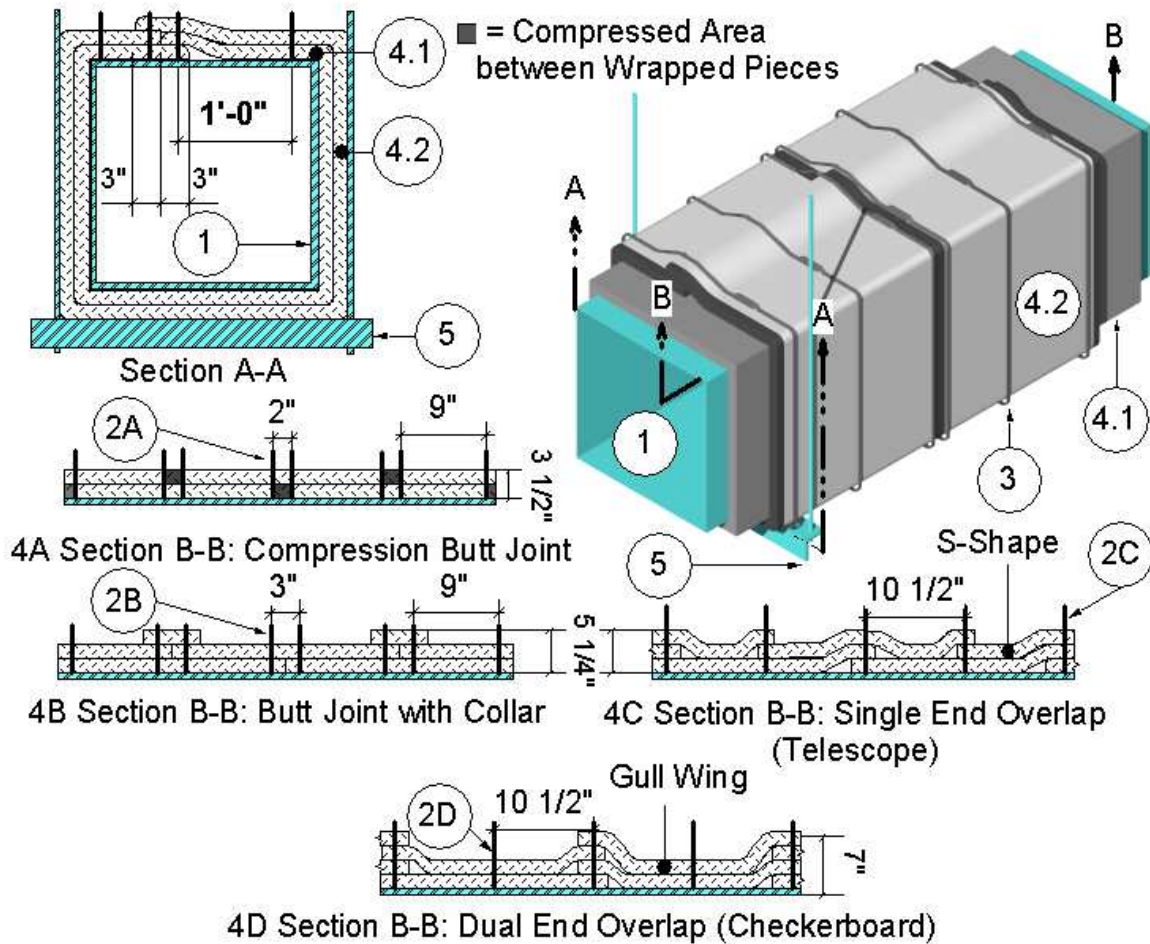

Figure 1
2. FASTENERS: Refer to Figure 1. Weld minimum 12 GA, 6-1/2 in. long, copper-coated, steel insulation pins or 12 GA, insulated cup head steel pins to the grease duct (Item 1). Match the following fastener method with corresponding insulation (Item 4) method.
- INSULATION: Apply the non-combustible (ASTM E136) and durable (ASTM C518) insulation in two layers of nominal 1-1/2 in. thick, 6 pcf density blanket, made of calcium-, silica-, and magnesium-oxide (CSM) fibers, encapsulated with polypropylene-foil or aluminized polyester-foil scrim over the entire surface of the grease duct (Item 1). Apply the inner first layer (Figure 1, 4.1) in accord with one of the four methods (A, B, C, or D) that follow. Offset the second outer layer (Figure 1, 4.2) one half the width of the inner first layer (Figure 1, 4.1) so that the joints of the inner first layer (Figure 1, 4.1) are covered by and approximately in the center of the second outer layer (Figure 1, 4.2). Apply the second outer layer (Figure 1, 4.2) in accord with the same method selected for the first inner layer (Figure 1, 4.1). Use blanket, available in various widths, that is fully encapsulated or single faced with a polypropylene-foil or polyester-foil scrim. Expose a foil-faced side of insulation to view. Wrap one layer